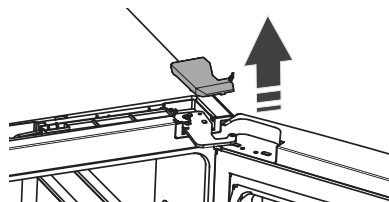

Figure 2
- 3 Remove the upper hinge cover (see Figure 2).